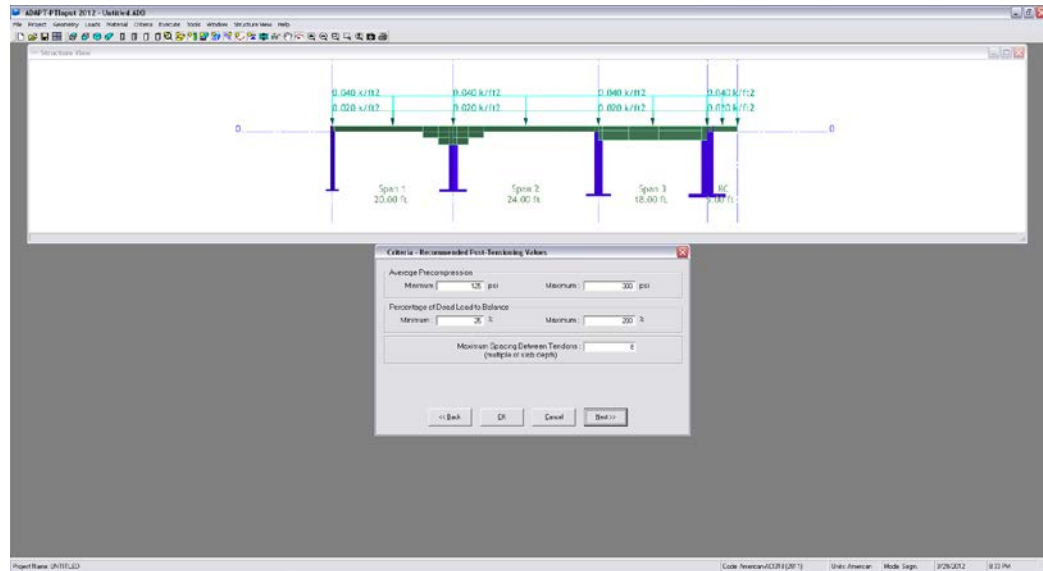

FIGURE 5.3-23
5.3.5.2 Enter The Recommended Post-Tensioning Values (Fig. 5.3-23)